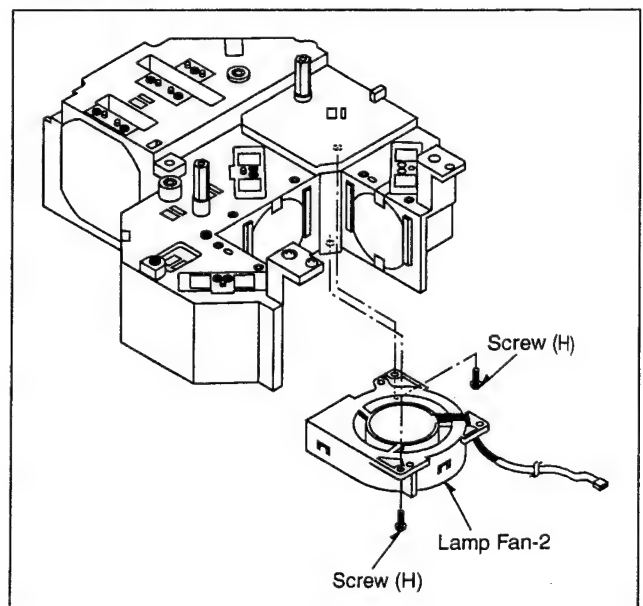

Fig. O9
1. Remove 2 screws (H) to remove the Lamp Fan-2 as shown in Fig. O9.